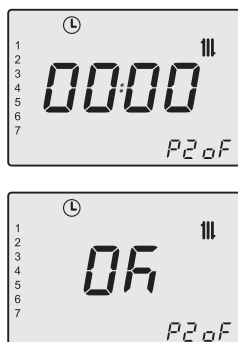

Fig. 2.17
Any unused programmes must be set to 0. Once set to 00:00 confirm with key 20 and the related automatic off time brackets will be set to 00:00 (Fig. 2.17).